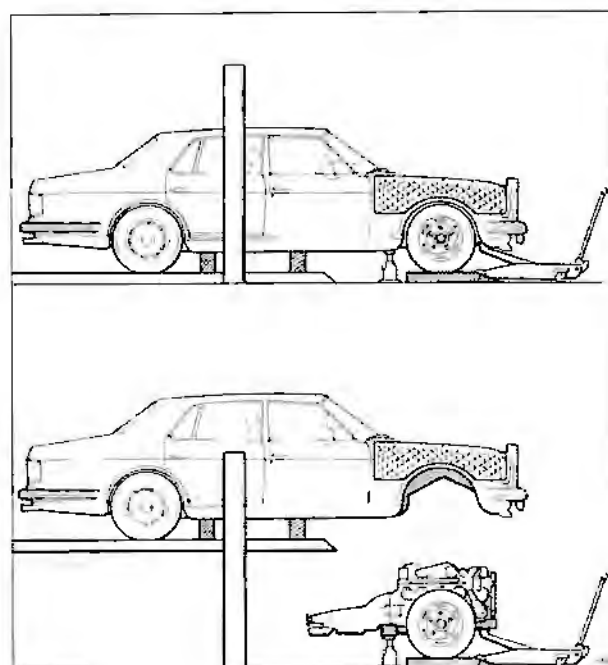

Fig. H3-10 Sub-frame, engine and transmission unit removal
37. Lower the ramp to the ground. Carefully push the car forward off the ramp, until the front of the car overhangs the ramp sufficiently to allow the ramp to be raised without any crossbeam or part of the ramp fouling the transmission unit (see fig. H3-10). Place
38. Position sill blocks beneath the car body sills as far forward as possible to maintain the body on the ramp in the horizontal position (see fig. H3-10).
40. Place a jack beneath the rear crossmember of the front sub-frame and also beneath the front triangle lever mounting bracket (see fig. H3-10).